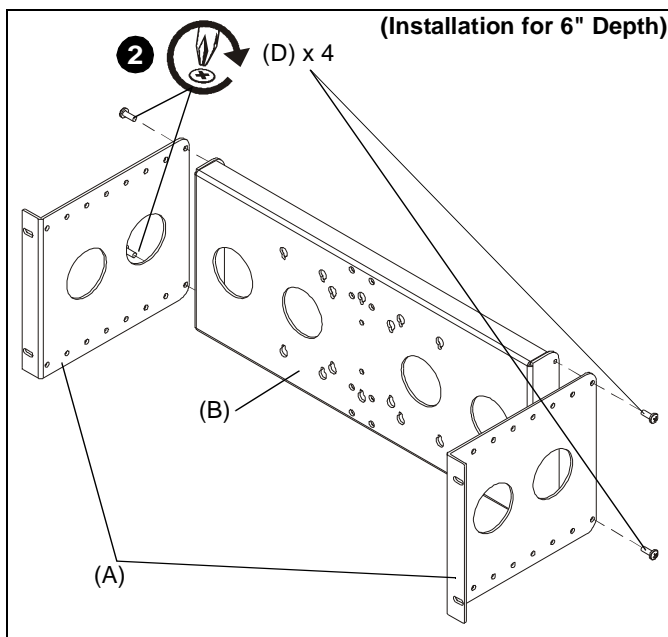
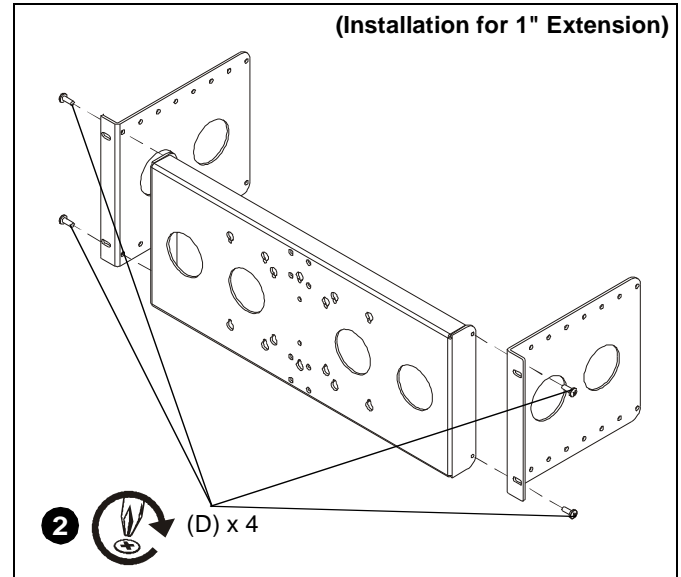

Figure 1
Figure 2
2. Install four 10-24 x 1/2" Phillips cap head screws (D) through two side brackets (A) into center bracket (B), and tighten. (See Figure 1) and (See Figure 2)